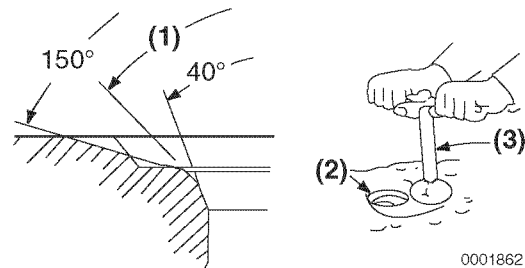

Figure 6-58
Light cutting can be performed by the use of a hand-operated cutter (**Figure 6-58**).
Valve seat diameter can be adjusted by top-grinding with a 150° stone to make the seat diameter smaller, and bottom-grinding using a 40° stone to make the seat diameter larger. Once the seat location has been corrected, grind and lap the seat angle (**Figure 6-58, (1)**) to specification. See *Cylinder Head on page 6-6 for specifications*.